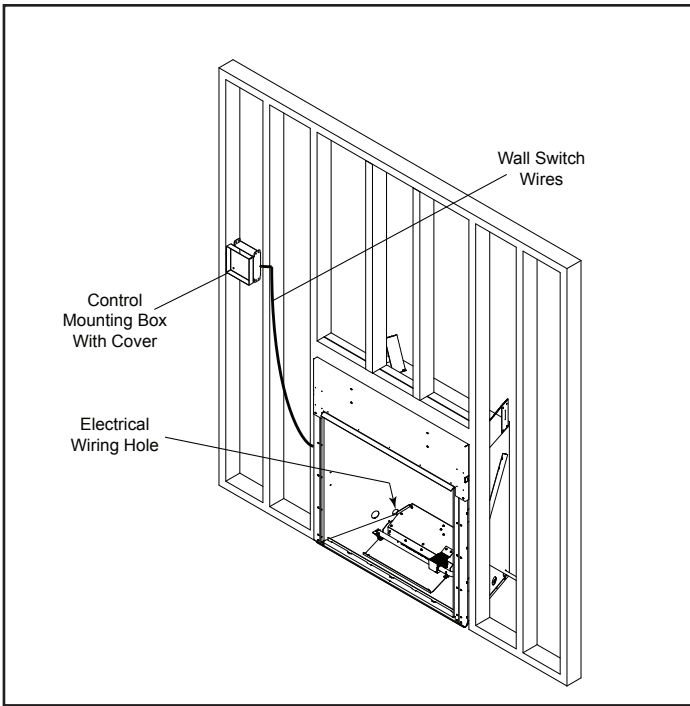

Figure 3.6. Wall switch mounting
- Using the nailing tabs, mount the 4 gang box to a stud within 14 feet of the appliance. See Figure 3.6.